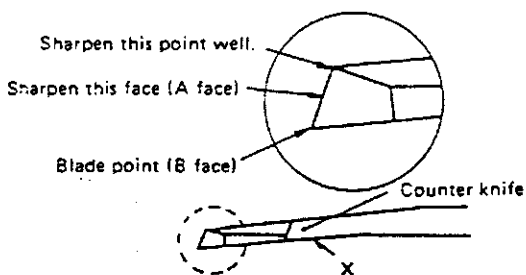

Fig. 22
- The sharpness of the thread trimmer is improved simply by sharpening "A" shown in Fig. 22 (Pay attention to the angle shown in Fig. 22).